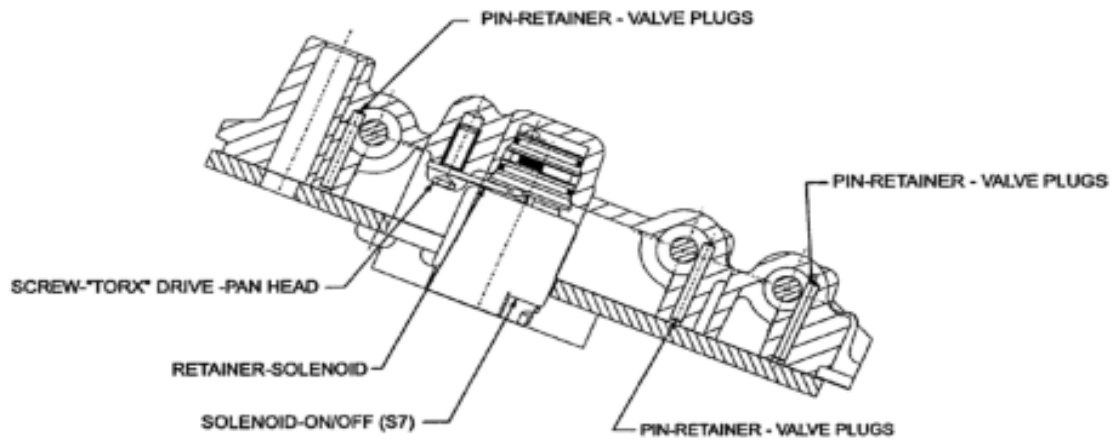

Figure 8.39 Valve fixing plug and pin
- l. Install the fixed bolt. Refer to Figure 8.39
- n. Install the fixed bolt, shown as Figure 8.39
- q. Tighten the screw of solenoid valve 7. Refer to Figure 8.39